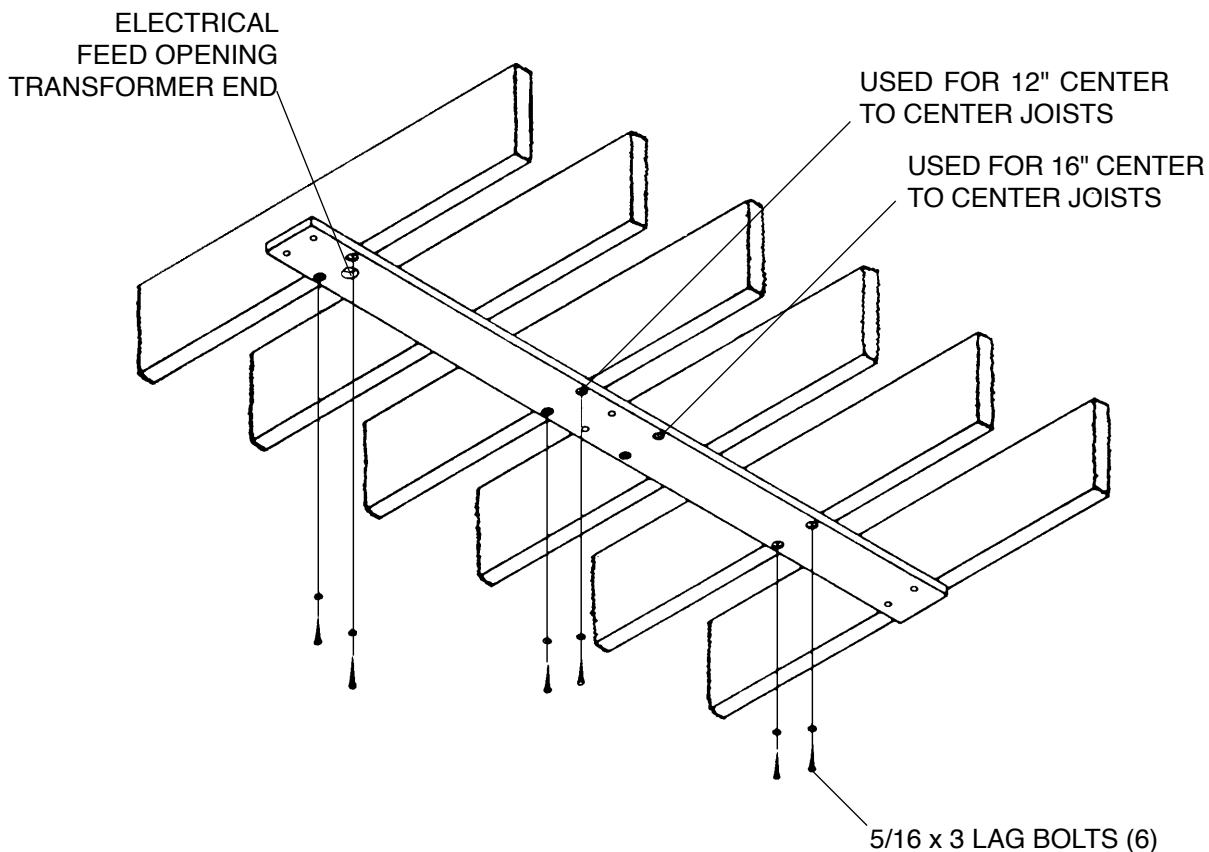

FIGURE 1 (1.1.1.)
1.1.1. In conventional ceilings with **joists perpendicular** to center line of light, attach pallet by **at least 6 - 5/16 x 3" lag screws**. Suitable holes are provided in pallet for most installations, utilizing 16" or 12" cc ceiling joists. For other spacings or locations, additional holes can be cut in pallet. (SEE FIGURE 1.)